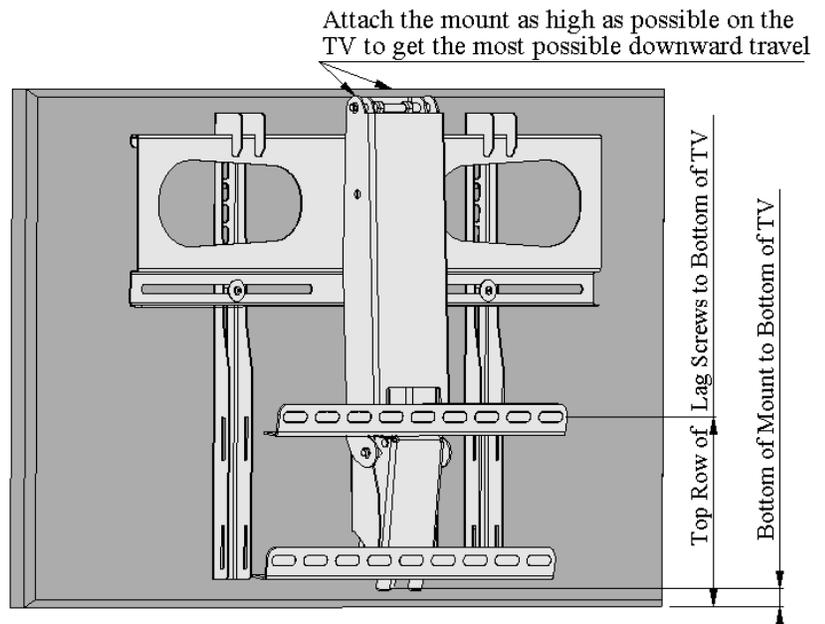

Figure 11, Mount Test Fitting
4. Figure 11 shows the important things to look for and measure.